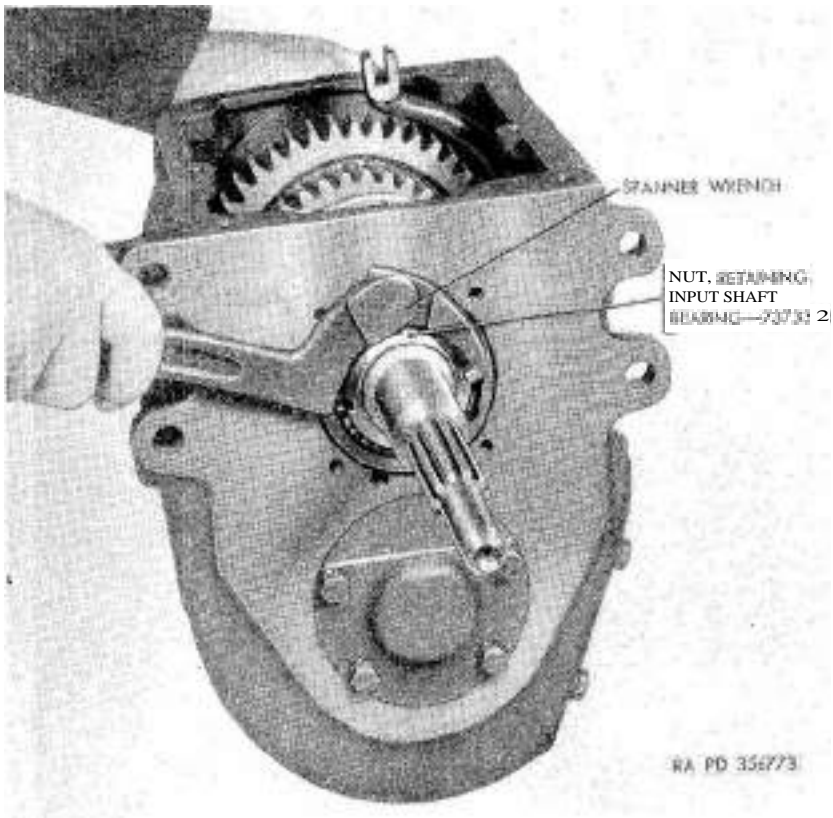

Figure 97. Removing input shaft bearing retaining nut with spanner wrench.
- (3) Remove input shaft bearing retaining nut (AY) with a large spanner wrench (fig. 97) or a brass drift and hammer.
- (4) Place first and second speed sliding gear and synchronizer sliding clutch in neutral position.